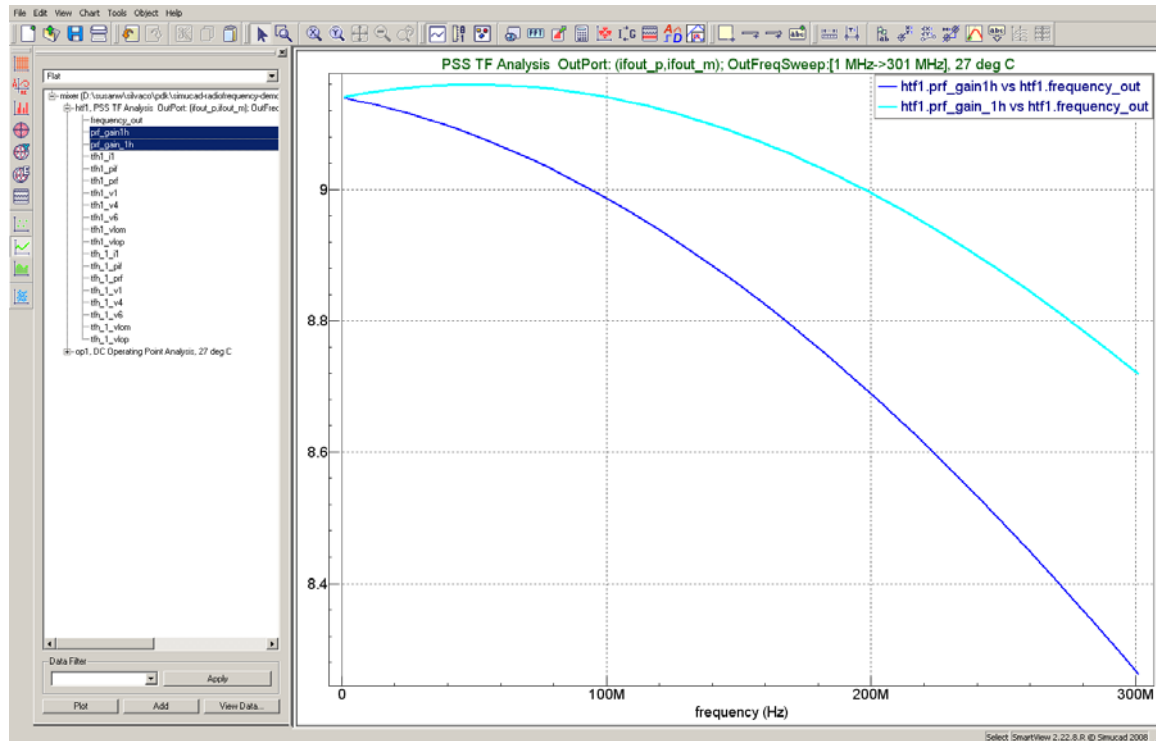

Figure 11: Mixer Conversion Gain Plot
2.8.1: Open plot htf1, then select vectors “prf_gain1h” and “prf_gain_1h”, and click **Plot**. The mixer conversion gain plot is shown in Figure 11.